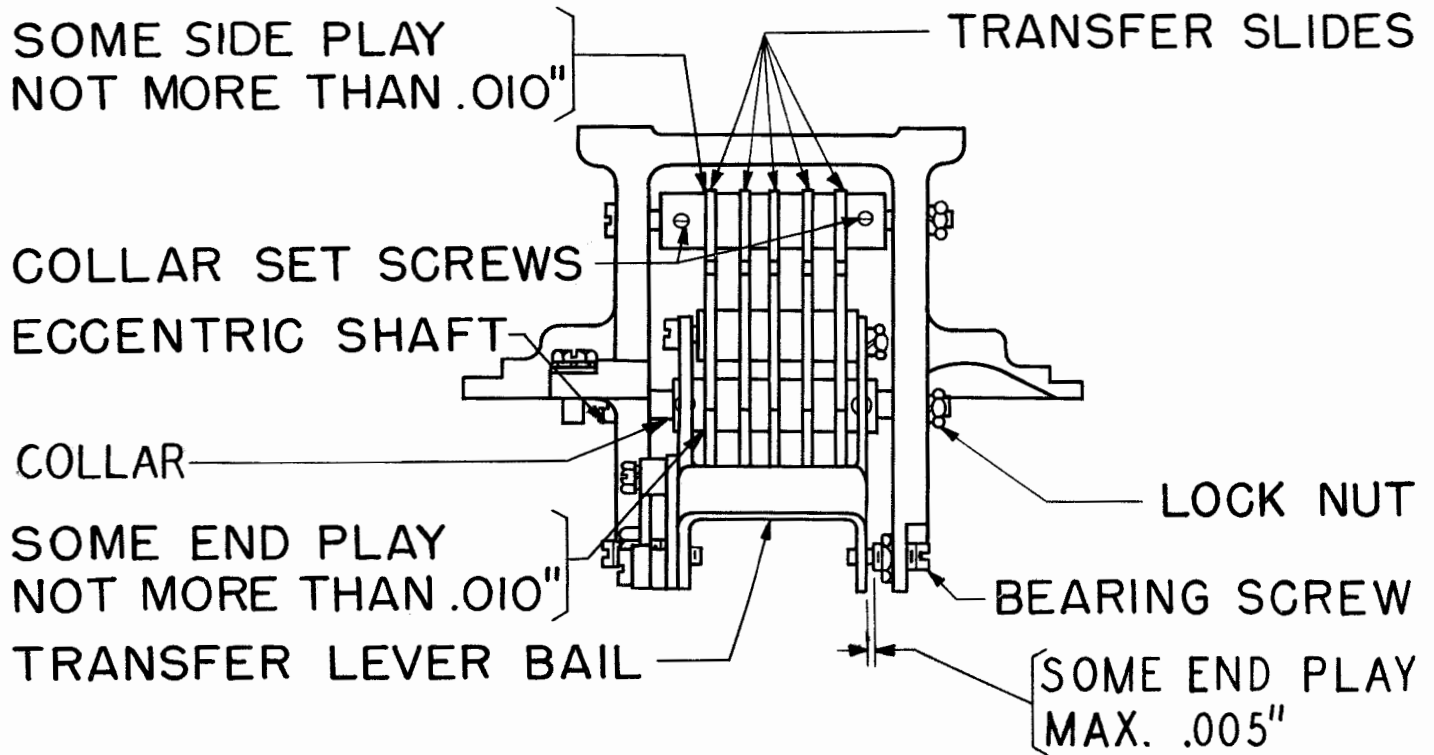

Figure 60
on the shaft, the high part of the lower transfer-slide-bar eccentric-shaft shall extend downward. See Figure 60.
2.126 Upper Transfer-slide-bar-shaft Collars (New-style Bracket): (See also 2.119.) The transfer slides shall line up with their associated sensing-contact operating-bails, and there shall be some side play, not more than that indicated in Figure 60.
2.127 Lower Transfer-slide-bar Eccentric-shaft Collar (New-style Bracket): (See also 2.119.) The transfer-slide bars shall be perpendicular to their shafts and move freely in their guides, and there shall be some endplay, not more than that indicated in Figure 60, between the set-collar on the lower eccentric-shaft and the adjacent slide bar when the play is taken up in a direction away from the collar.
2.128 Transfer-lever Bail (New-style Bracket): (See also 2.119.) With the transfer-lever-bail spring unhooked, the transfer levers shall line up centrally with their associated slide bars and the bail shall rotate freely on its bearing screws with some endplay, not more than that indicated in Figure 60.